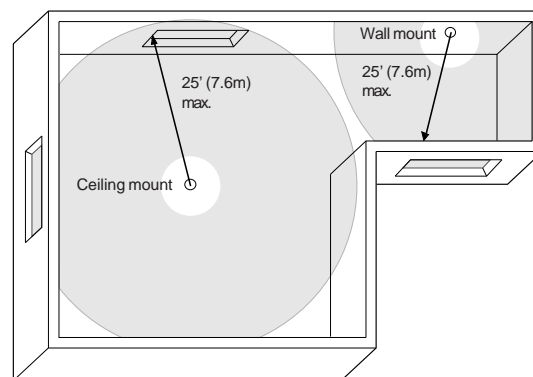

Figure 2. Mounting Locations
The detector can be mounted on ceilings or on walls opposite or adjacent to the window to be protected. See Figure 2.
- Mount the detector on a stable surface up to 25 feet (7.6 m) from the farthest point on the glass surface. See Figure 2.